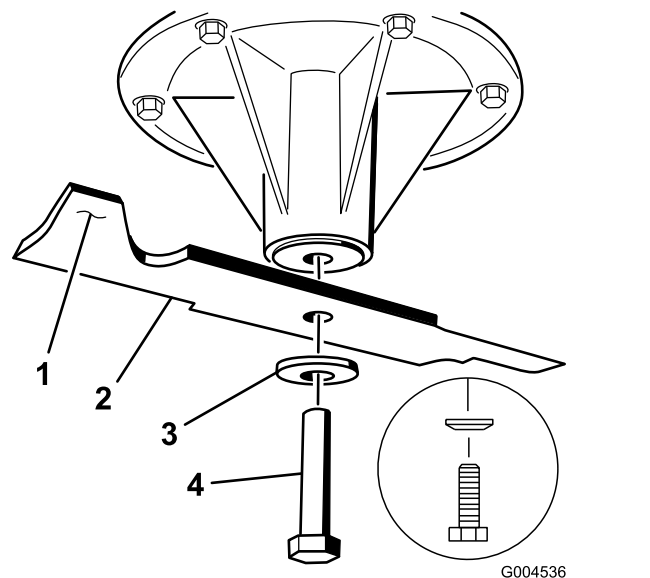

Figure 102
1. Install the blade onto the spindle shaft (Figure 102).
2. Install the spring disk and blade bolt (Figure 102).
Note: The spring-disk cone must be installed toward the bolt head (Figure 102).